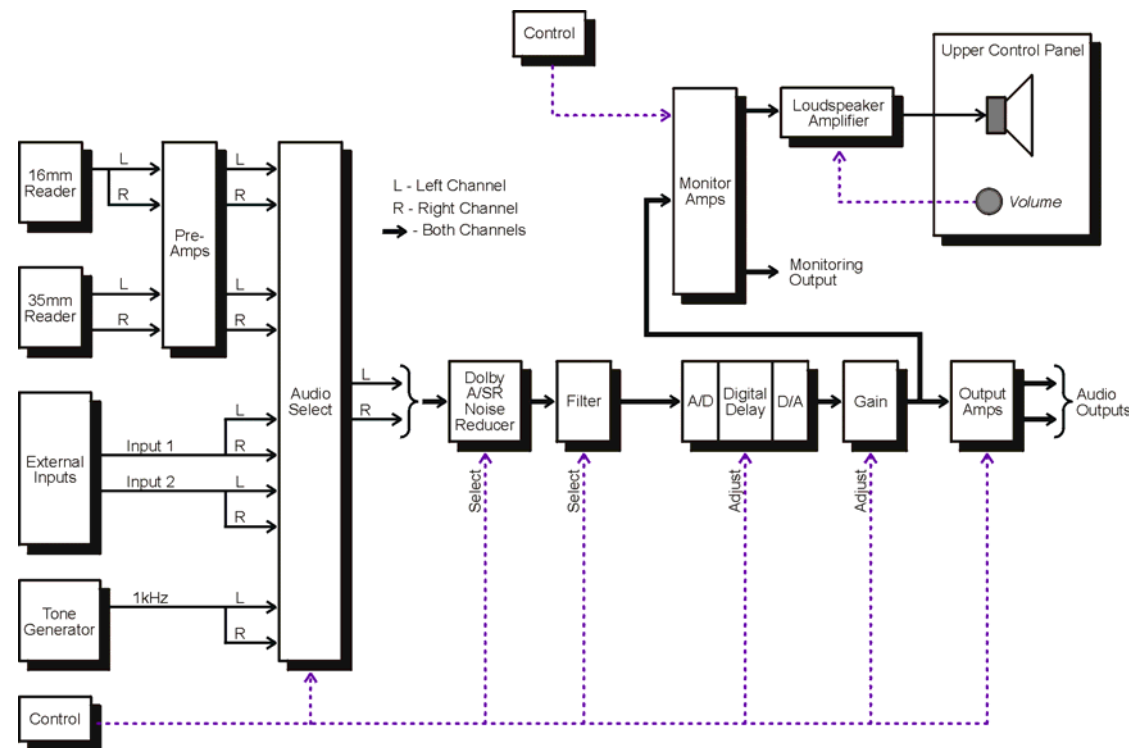

Figure 6 - Audio System Block Diagram
Audio System Block Diagram	Figure 6
The Audio System picks up the film soundtrack and amplifies it to provide the audio output. See Figure 6. The system is able to introduce a delay of up to 1.3 seconds into the output and accommodates 16mm optical, and 35mm optical mono and stereo sound.
- Menu Hierarchy (Figure 6)